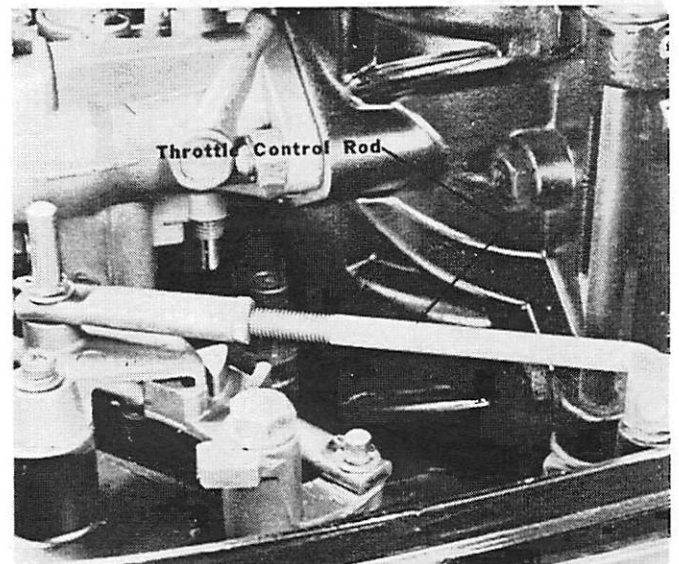

Figure 11. Neutral RPM Adjustment
2. Adjust throttle control rod to obtain a maximum RPM in neutral of 2500-to-2700. (Figure 11)